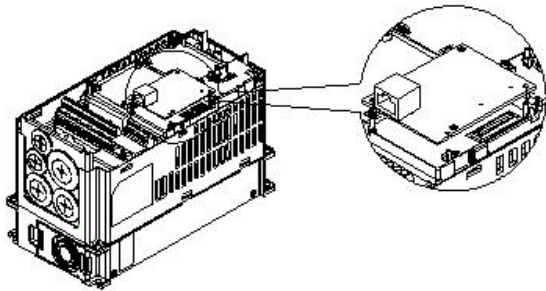

Figure 3.1-1
3. Place the insulation spacer into the positioning pin and aim the two holes on the PCB at the positioning pin. Press the pin to clip the holes with the PCB (see Figure 3.1-1).